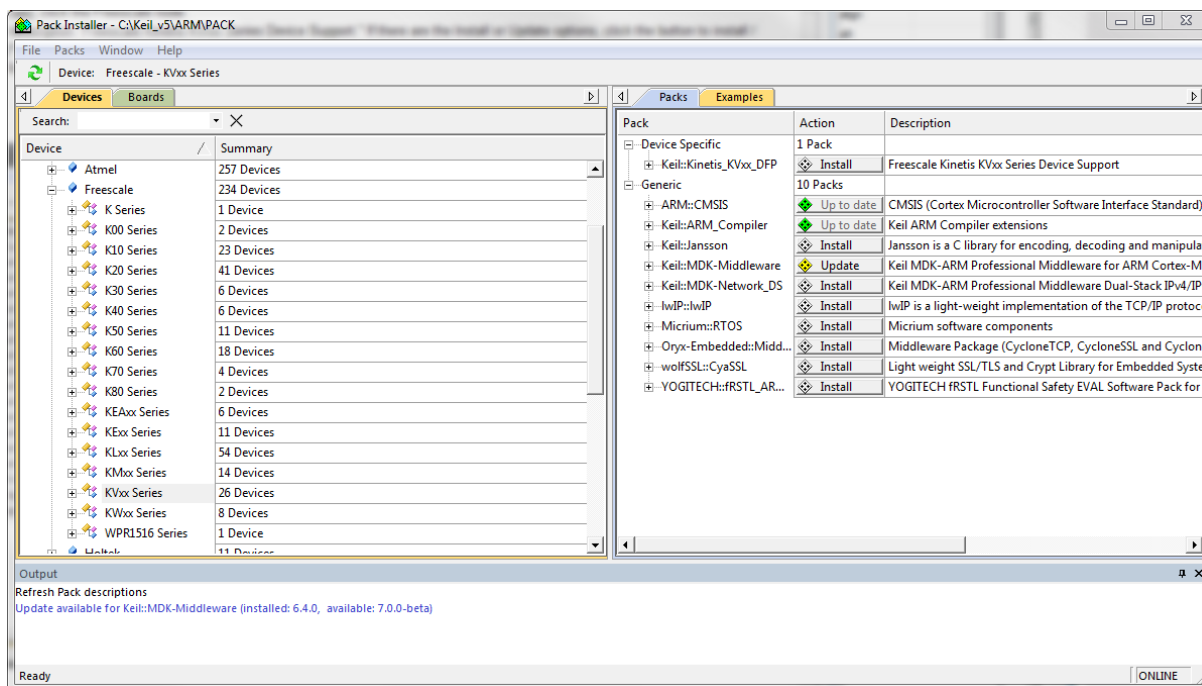

Figure 1-25. Pack Installer
6. Look for a node called "Keil::Kinetis_KVxx_DFP." If there are the Install or Update options, click the button to install/update the package. See Figure 1-25.